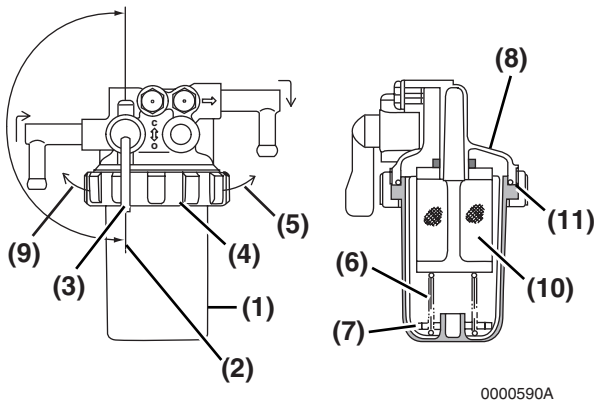

Figure 16
1. Position an approved container under the cup (**Figure 16, (1)**) of the fuel filter / water separator to collect the contaminants.
2. Close (**Figure 16, (2)**) the fuel cock (**Figure 16, (3)**).
3. Turn the retaining ring (**Figure 16, (4)**) to the left (**Figure 16, (9)**).
4. Carefully remove the cup (**Figure 16, (1)**). Remove the retaining spring (**Figure 16, (6)**) and float (**Figure 16, (7)**) from the cup. Pour the fuel into an approved container and dispose properly. Hold the bottom of the cup with a shop towel to prevent the fuel from dripping. Wipe up any spills immediately.
6. Remove the mesh filter (**Figure 16, (10)**) by pulling it down.
8. Inspect condition of the O-ring (**Figure 16, (11)**). Replace if necessary.
9. Put the float (**Figure 16, (7)**) and retaining spring (**Figure 16, (6)**) inside the cup.
10. Install the cup to the mounting flange (**Figure 16, (8)**) and turn the retaining ring (**Figure 16, (4)**) to the right (**Figure 16, (5)**). **Hand tighten only.**
11. Open the fuel cock (**Figure 16, (3)**).